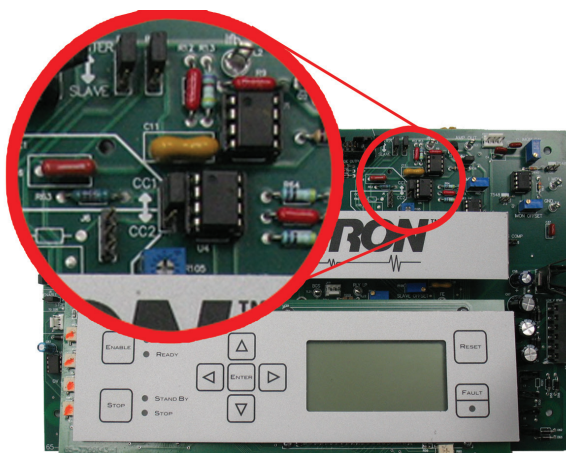

Figure 4.4 – Compensation Setting
When the amplifier is used in Controlled Current (CC) mode, the current control loop is tuned with one of two available RC networks: CC1 (R63 and C16) or CC2 (R82 and C25). Place **Jumper J5** in the **UP** position to select the **CC1** network (factory default). Place **Jumper J5** in the **DOWN** position to select the **CC2** network. See **Figure 4.4**.